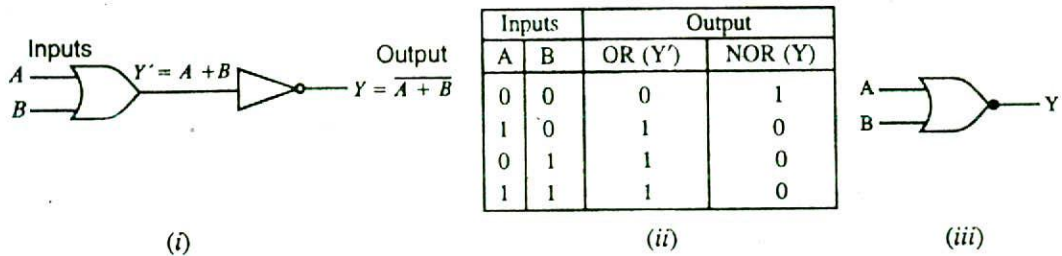

Fig. 27.12
(ii) **NOR gate.** It is a combination of OR gate and NOT gate. In other words, output of OR gate is connected to the input of a NOT gate as shown in Fig. 27.12 (i). Note that output of OR gate is inverted to form NOR gate. This is illustrated in the truth table for NOT gate. It is clear that truth
This Boolean expression can be read as $Y = \text{not } A \text{ or } B$. To perform the Boolean algebra operation, first the inputs must be ORed and then the inversion is performed. *Note that output from a NOR gate is high (1) only when all the inputs are low (0). If any of the inputs is high (1), the output is low (0).* Fig. 27.12 (iii) shows the logic symbol for a NOR gate. The bubble (small circle) at the Y output indicates inversion.